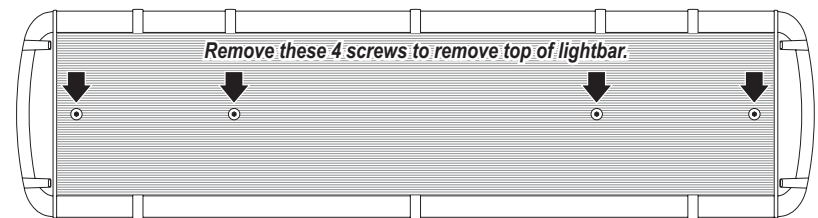

Fig. 2 Removing top extrusion of Lightbar
4. Remove the top of the base extrusion by removing the 4 screws as shown in figure 2.